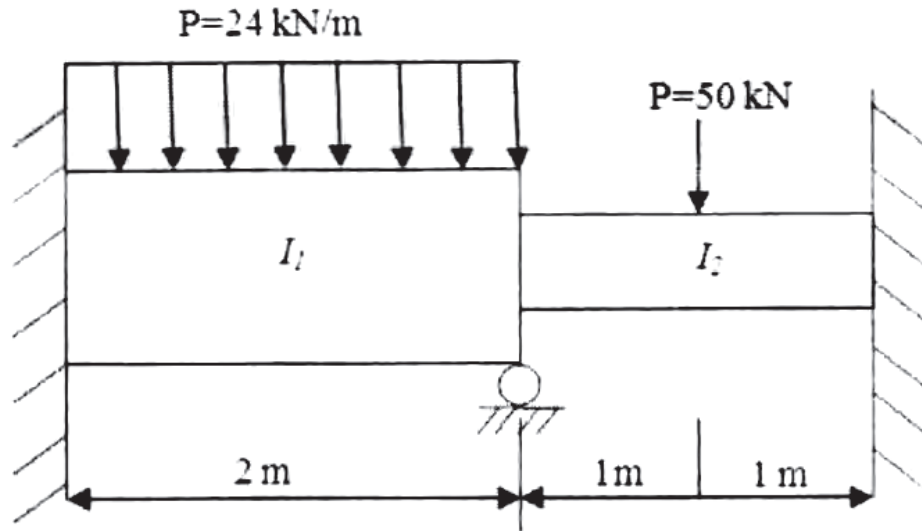

Figure 3
- Q4)** Determine slope and deflection for the beam shown in Figure 3. Given: Elastic Modulus  $E = 200 \text{ GPa}$ ,  $I_1 = 4 \times 10^{-6} \text{ m}^4$  and  $I_2 = 2 \times 10^{-6} \text{ m}^4$ . [16]